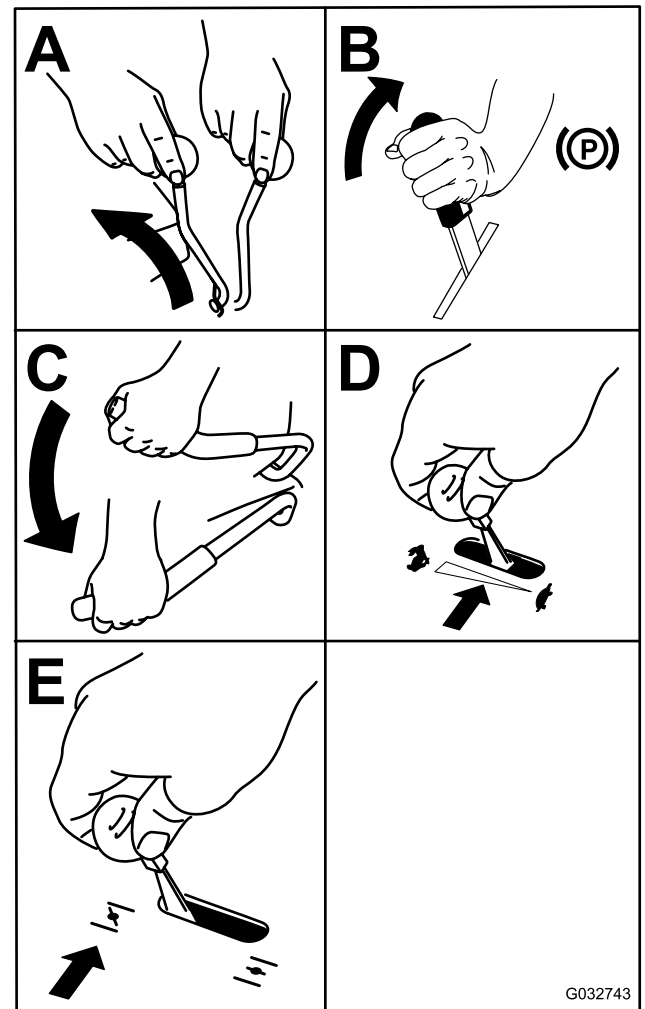

Figure 21
3. Move the PTO-engagement lever to the OFF position (Figure 21).